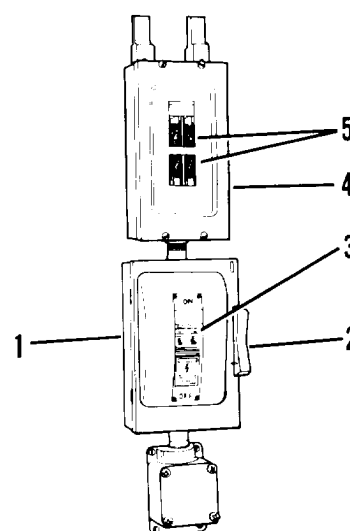

Figure 2-1. 110 volt switch box and circuit breaker load center
b. Location. One mounted above the other inside of van on right side of front window (figure 2-1).
c. Switch Box (1). Contains double-pole, single-throw knife switch (2) and two 60 amp fuses (3).
d. Circuit Breaker Load Center (4). Contains four 20 amp switch type circuit breakers (5).